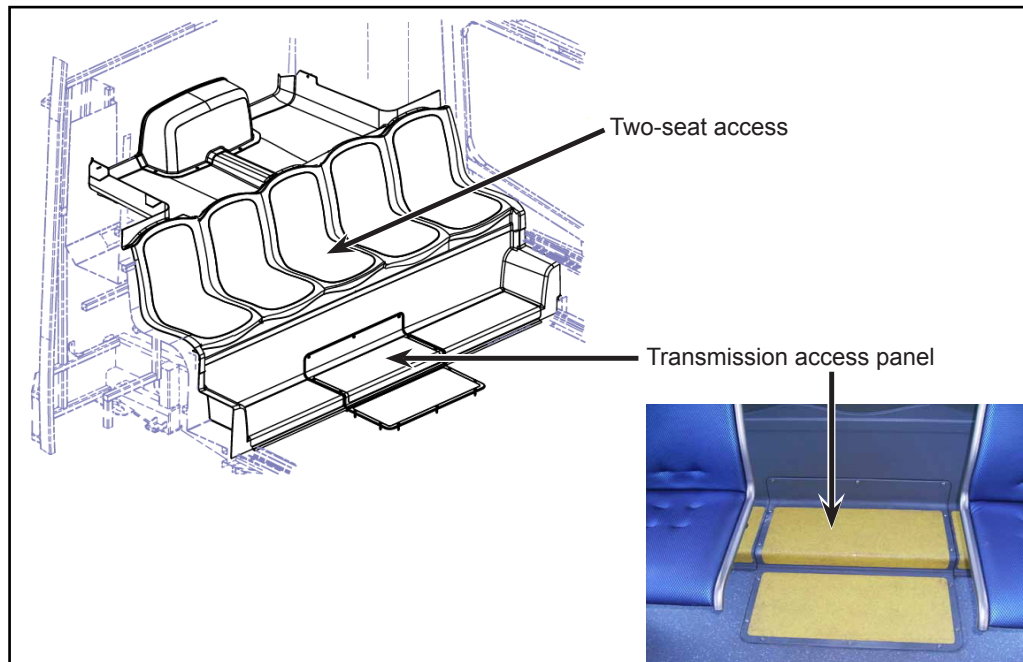

Figure 3 - Typical View of Two-seat Access Panel and Transmission Access Panel
- 1.6. Remove and retain the two-seat access from the rear five-seat, and transmission access panel with the hardware (see Figure 3).